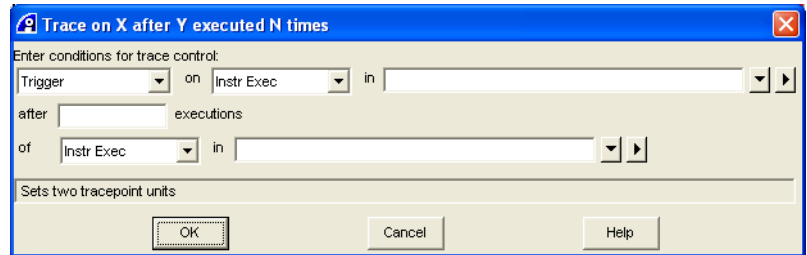

Figure 7-9 Trace on X after Y executed N times dialog box
1. Select **Debug** → **Tracepoints** → **Trace on X after Y executed N times...** from the Code window main menu to open the Trace on X after Y executed N times dialog box. Figure 7-9 shows an example: